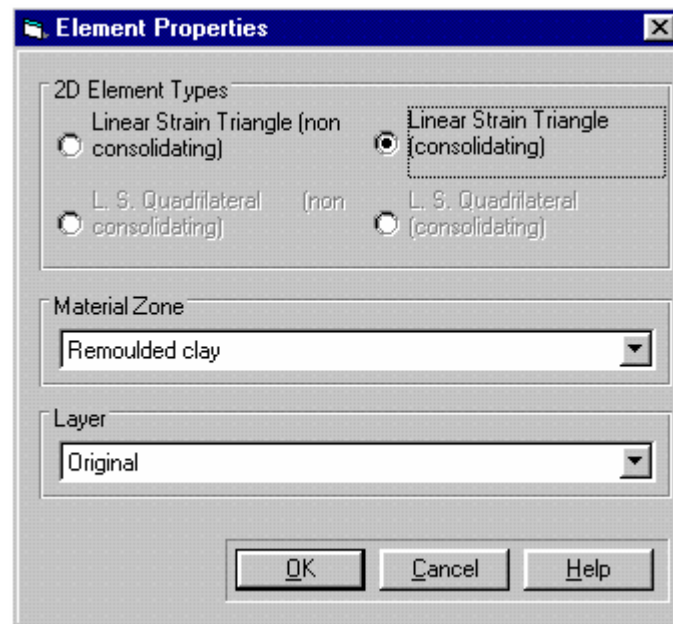

Figure 2-8: Defining Element Type and Zone
- Step 6** The Element Properties dialogue box should now look like Figure 2-8. Click on **OK** to exit once you have finished.